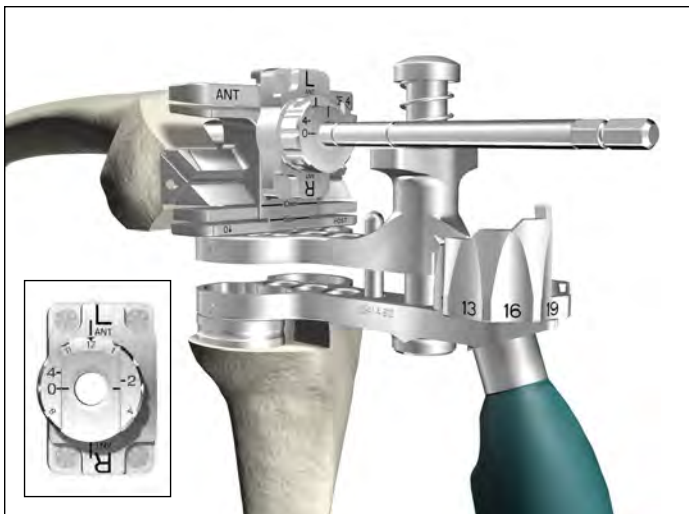

Figure 25
- Use the upper paddle of the Adjustable Spacer Block as reference for the restored flexion joint line. Rotate the offset dial and slide the slider on the Femoral Offset Bushing and adjust the internal/external rotation of the All-in-One Cutting Block until the posterior surface of the All-in-One Cutting Block is flush with the upper paddle of the Adjustable Spacer Block (**Figure 25**).